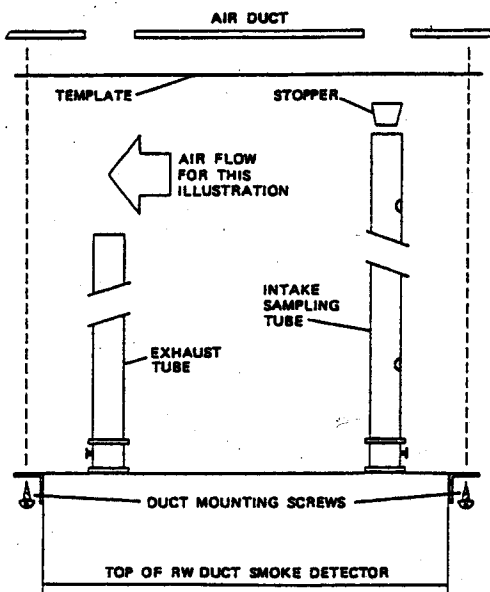

FIG. 1 DETECTOR MOUNTING
I. MOUNTING THE DETECTOR (See Figure 1) CAUTION — To prevent false alarms the detectors should not be mounted in areas of extreme high or low temperatures, in areas where high humidity exists, in areas where duct air may contain gases or excess dust. Refer to NFPA 90A, 72E, and 101.
E. DETECTOR MOUNTING (See Figure 1 & 2) (Ionization Models for side mount only)